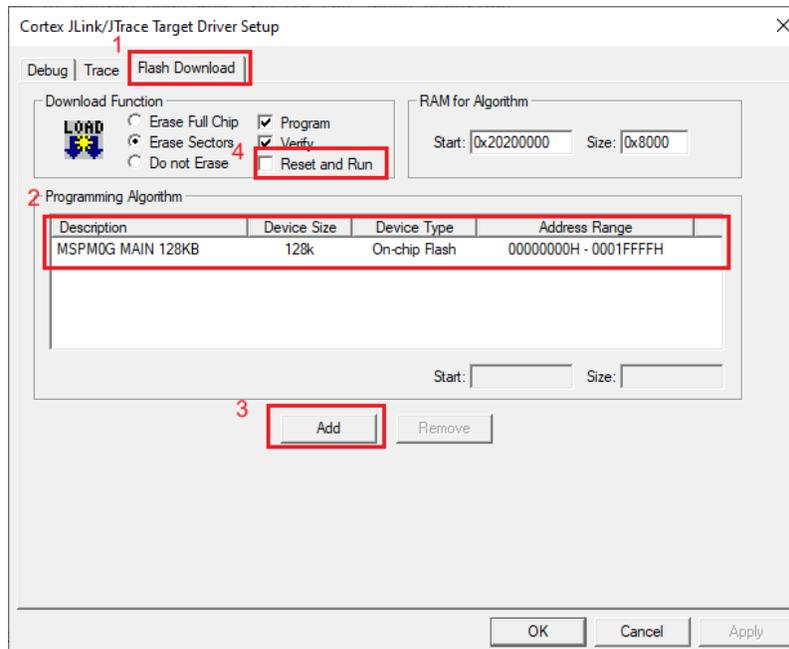

Figure 3-49. Flash Download Setting
- Click on the *Flash Download* tab and check whether the description matches Figure 3-49. If this does not match, then click on the *Add* button and select the corresponding MSPM0 MAIN option. The device type is *On-chip Flash*. At last select *Reset and Run*.